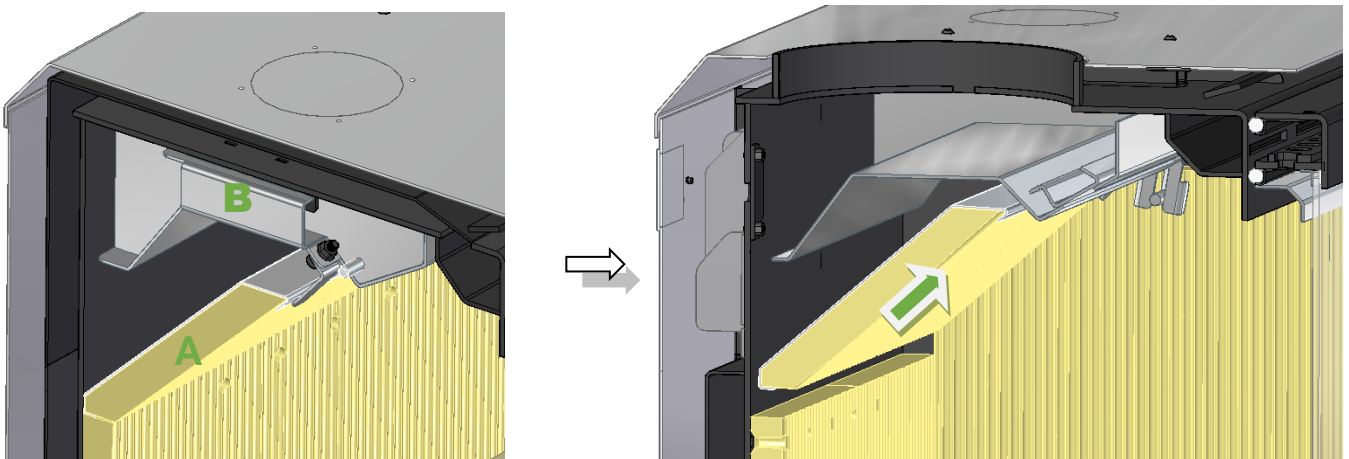
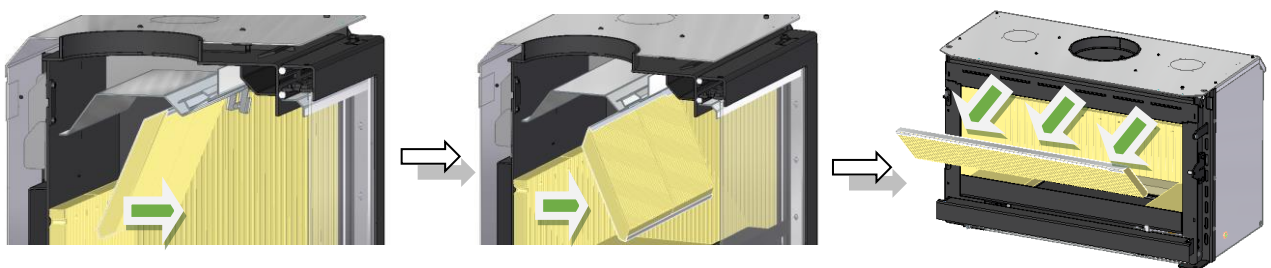

Figure 35 – Removing the smoke deflector
Figure 36 – Removing the smoke deflector
The preheated air glass cleaning system is operated by the regulator on the top of the door, see Figure 35, the vermiculite insulation will help keep the glass clean during most operating conditions. However, if the glass becomes dirty:
1. Open the door and remove the smoke deflector (A). To do this, place your hands on the baffle and move the baffle upwards, or turn the support tabs to the side, then move the bottom of the baffle towards you and remove the baffle, see Figure 35 and Figure 36.